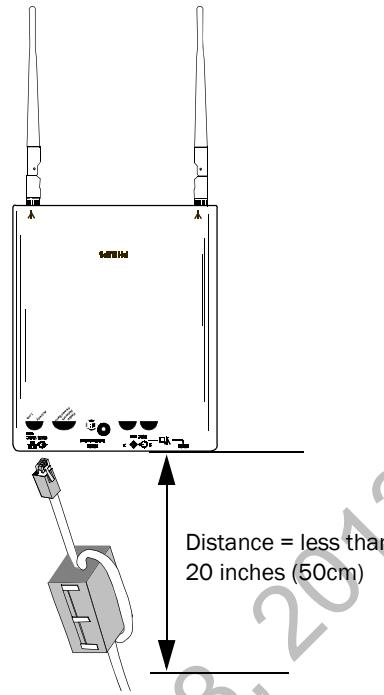

Figure 2-2: Installing a Ferrite Block on the UTP Cable to the IntelliVue Smart-hopping Infrastructure
6. Install a ferrite block on the UTP cable within 20 inches (50 cm) of the RJ-45 connector that connects to the Core Access Point as shown in Figure 2-2.